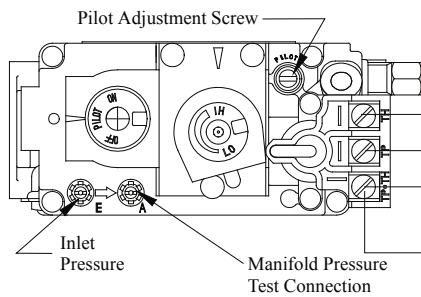

Figure 26. Vista 42 ST gas valve.
- An inspection of the gas valve, gas components, and pilot flame. For your convenience a 1/8" manifold pressure tap is supplied on the gas valve for a test gauge connection. See Figure 26.
1. Locate Pilot Adjustment Screw. (See Figure 26.)